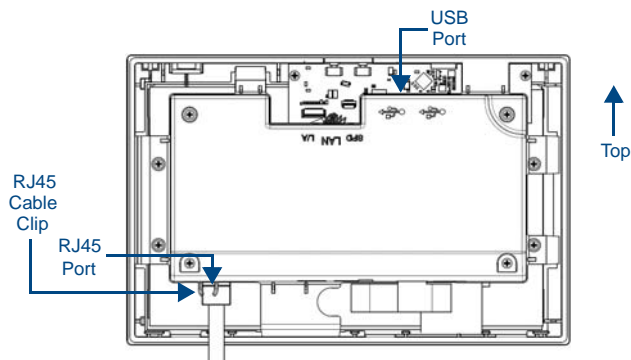
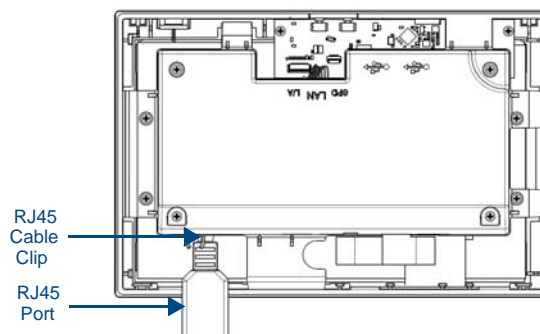

FIG. 2 Rear of the MXD-701 (Landscape)
FIG. 3 Rear of the MXD-701 (with RJ45 connection extended)
FIG. 2 shows the connectors located on the underside of the MXD-701.
Power for the MXD-701 is supplied via Power Over Ethernet (PoE), utilizing an AMX-certified, capacitive touch-compliant PoE injector such as the PS-POE-AT High Power PoE Injector (**FG423-81**) or other approved AMX PoE power source. The incoming Ethernet cable should be connected to the RJ45 port on the MXD-701 (FIG. 2 and FIG. 3).
5. Insert each connector into its corresponding location along the back of the MXD-701. Gently pull the RJ45 adapter from underneath the electronics cover (FIG. 3), attach the RJ45 cable, and push the connection back under the cover. Lock the RJ45 cable into the clip above the cable connection (FIG. 2) to facilitate the rest of the installation.